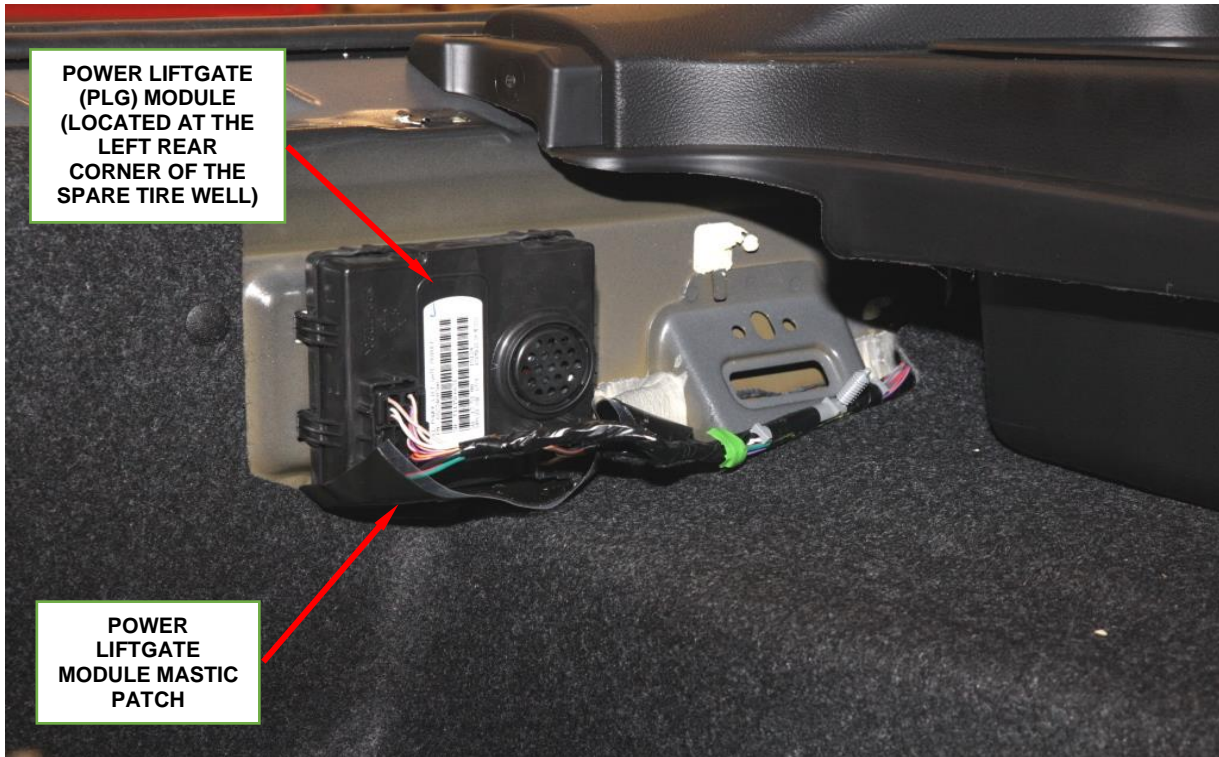

Figure 4 – Remove and Discard Mastic Patch from the PLG Module
10. Remove and discard the Power Liftgate Module (PLG) mastic patch(s) or foam water shield (mastic patches shown) (Figure 4).